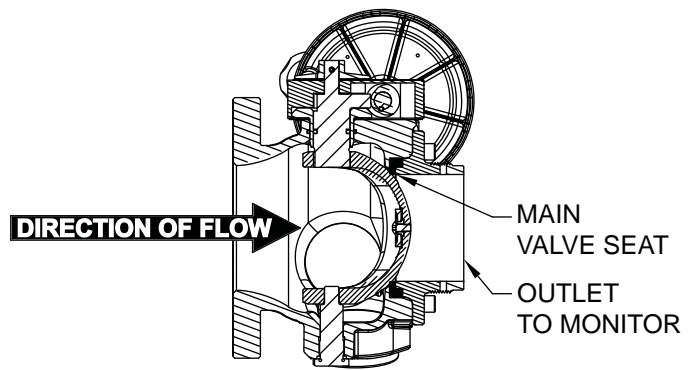

Figure 4.1
This product is intended to be installed with the main valve seat towards the outlet end as shown in figure 4.1. This allows the auxiliary discharge ports to be used while the main valve (to monitor) is closed. If the direction of flow is reversed, the auxiliary discharge ports will not be active when the main valve is closed and the automatic drain valve will not seal (if so equipped).
- Apply Loctite #242 (blue) compound to 3/8-16 screws and tighten to 180 to 200 in-lb (15 to 17 ft-lb) using the alternating sequence shown in figure 4.1.